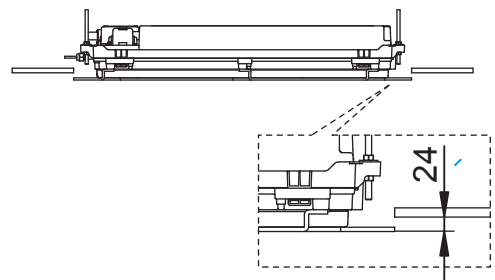

Figure 3.12
- 2.4) Verify that the level difference between the lower side of the ceiling and the lower side of the installation paper is about 24 mm (see Figure 3.12). The hoisting height of the air conditioner is not correct if this requirement is not fulfilled.[AD1]